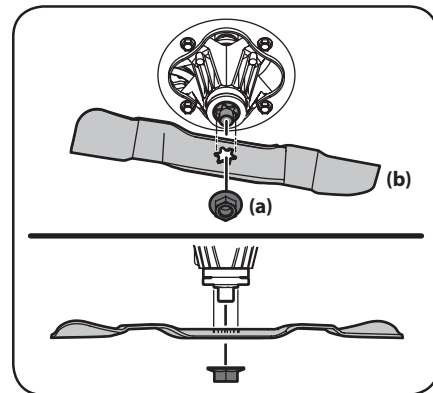

Figure 1-2
4. Remove the hex flange nuts (a) that secures the blades to the spindle assembly. See Figure 1-2.